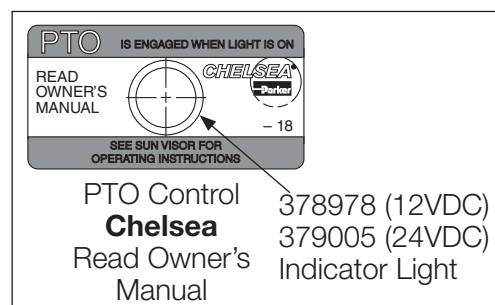

Figure 21
5. Install the control plate, stick on decal and indicator light on the dash using the hardware supplied in the installation kit (**Fig. 21**).